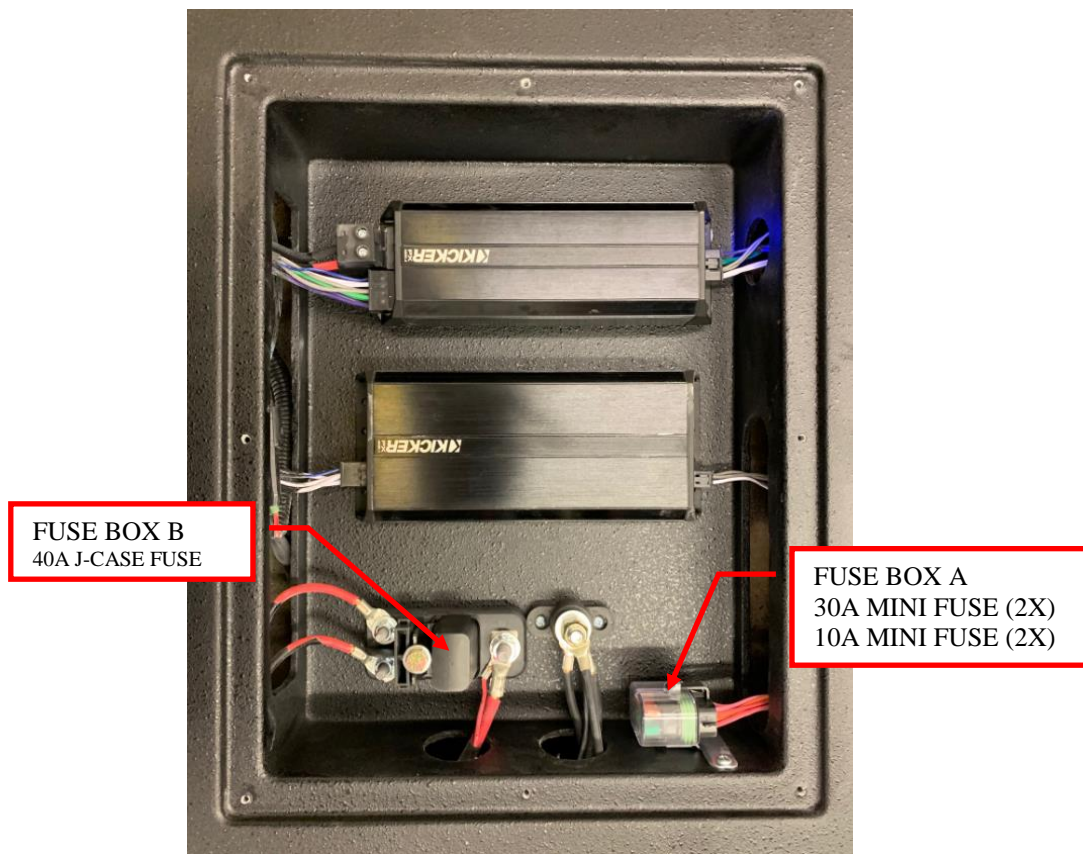

Figure 1: Fuse locations.
- Fuse Box B: Each amplifier uses a 40 amp J-Case fuse located under the black plastic cover shown in Figure 1.